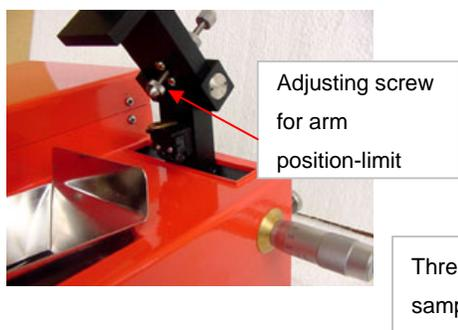

Fig. 2
- 5.2.3 Please check position-limit switch of working arm if it is at suitable position. If position-limit screw is too long it may cause machine to stop running. (as Fig. 2)